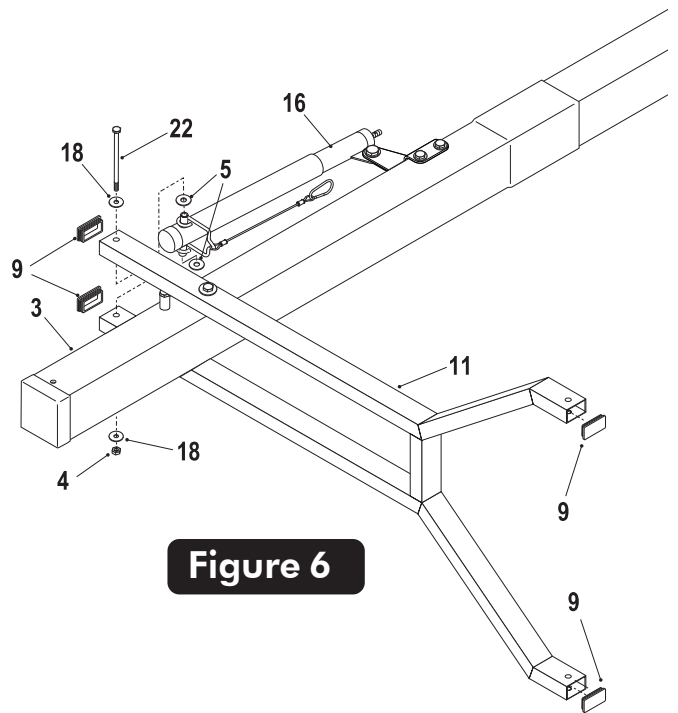

Figure 6
- Secure Actuator (#16) to Lower Arms (#11) using one bolt (#22), two flatwashers (#18), two plastic washers (#5) and one lock nut (#4). See Figure 6. Tighten both bolts (#22) securing Lower Arm (#11).